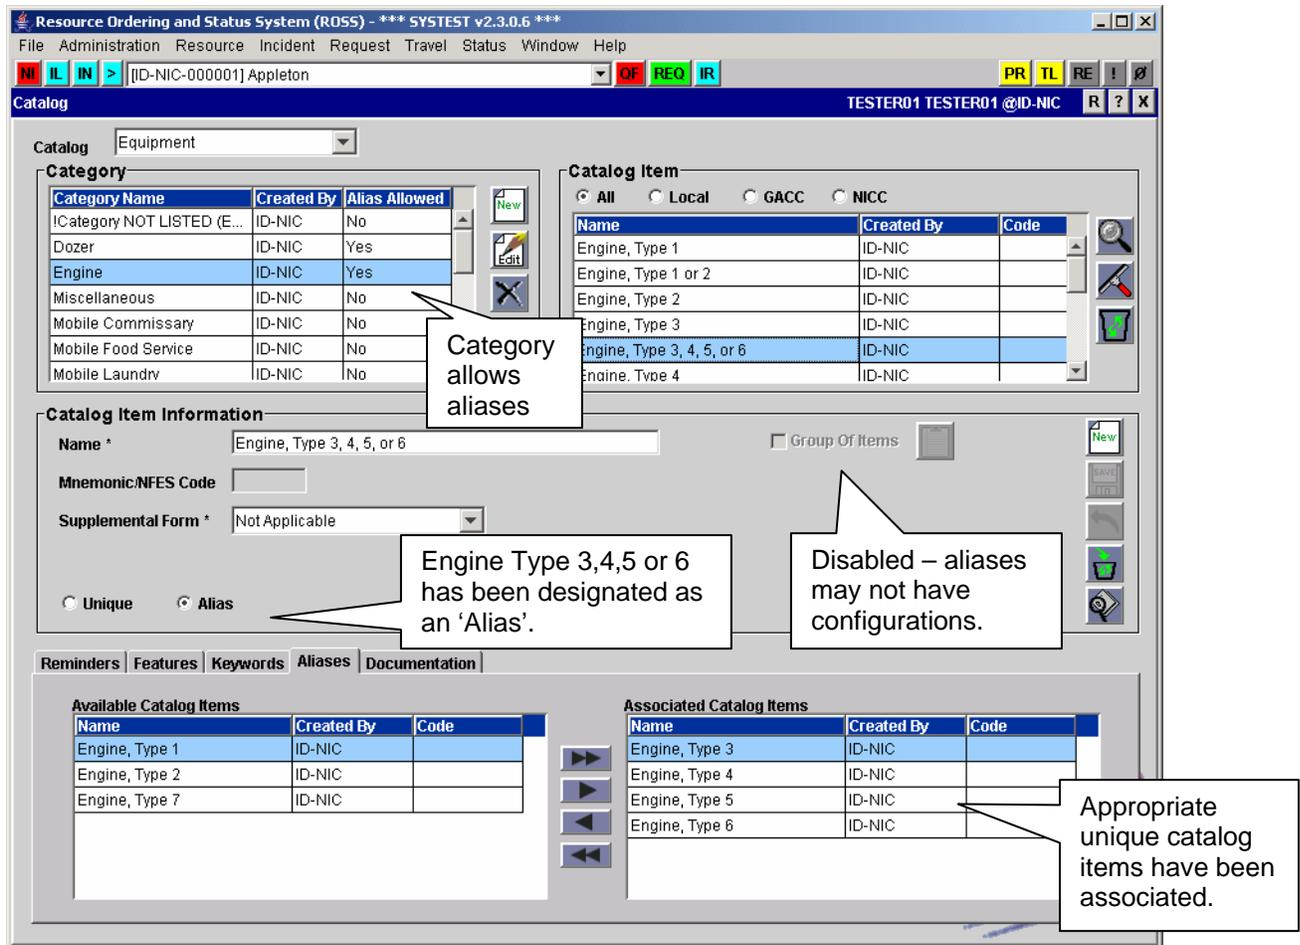

Figure 11. Associating unique items to an alias catalog item.
- The 'Aliases' tab on the lower grid of the Catalog screen is used to associate unique items to an alias item (e.g., associate unique items Airtanker, T1 and Airtanker, T2 with alias item Airtanker, T1 or T2). Associated items must be from the same Catalog and Category. The tab is only displayed if the selected item is an alias. An alias item may not be requested if there are no associated unique items identified in the Catalog. See Figure 11.